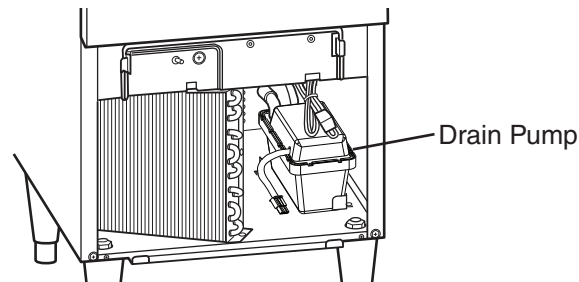

Fig. 7
8) Place the drain pump in the icemaker. See Fig. 7.